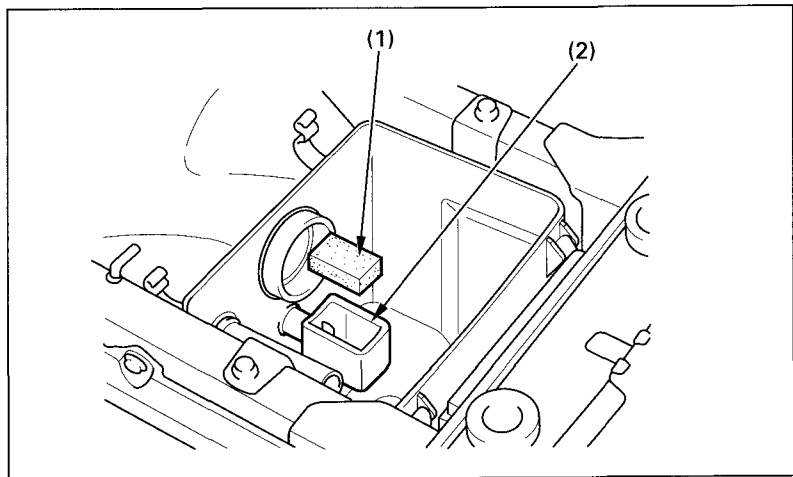

Fig. 4-6
Do not push the dust cover (1) (Fig.4-6) into the breather joint (2).